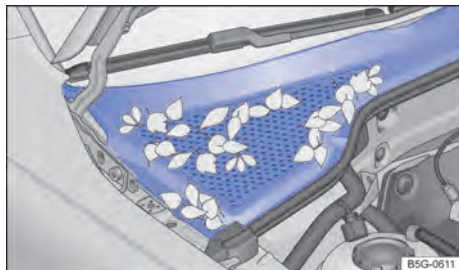

Fig. 203 Between the engine compartment and the windshield: plenum chamber (schematic representation).
- The plenum chamber is located in the engine compartment between the windscreen and the engine and has a perforated cover → Fig. 203. Air from outside is drawn in from the plenum chamber and is passed into the vehicle interior via the heating and fresh air or the air conditioning system.